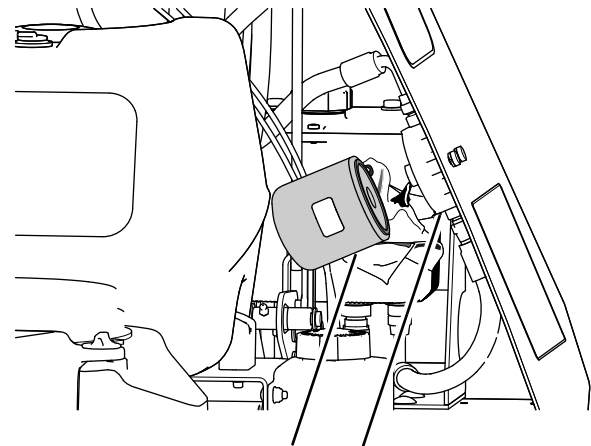

Figure 61
5. Rotate the auxiliary-hydraulic filter counterclockwise and remove it from the base of the filter adapter (Figure 61).
7. Install the filter by rotating it clockwise onto the filter adapter until the seal contacts the filter adapter, then tighten the filter an additional 2/3 to 3/4 turn (Figure 61).